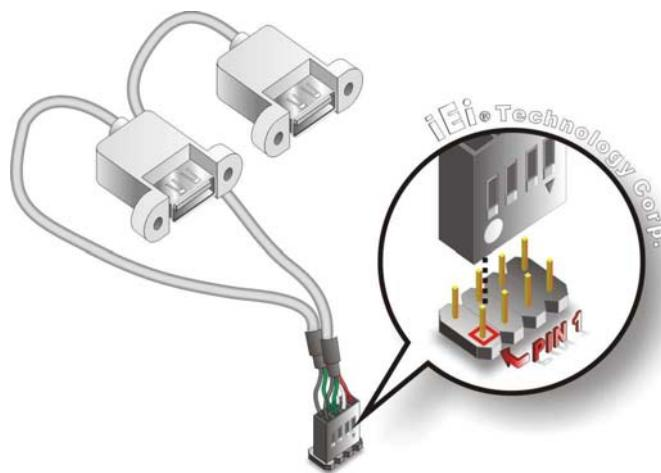

Figure 4-14: Dual USB Cable Connection
**Step 3: Insert the cable connectors.** Once the cable connectors are properly aligned with the USB connectors on the PM-PV-D4251/N4551/D5251, connect the cable connectors to the on-board connectors. See **Figure 4-14**.